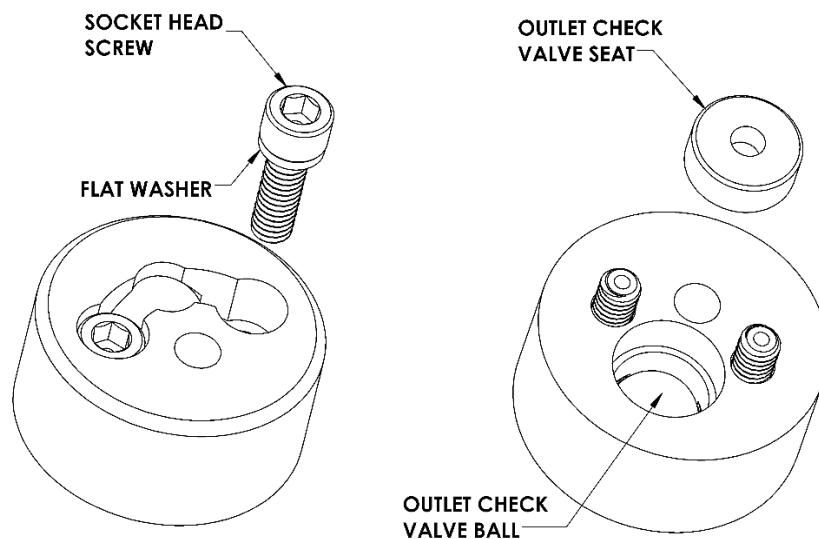

Figure 24 Inserting the Socket Head Screws
The outlet side of the check valve body has three holes in the end of the stem (see **Figure 24** on this page).
3. **Apply** anti-seize lubricant to the threads of the two socket head screws. **Install** the flat washers and the two socket head screws through the outlet check valve retainer (see **Figure 24** below).